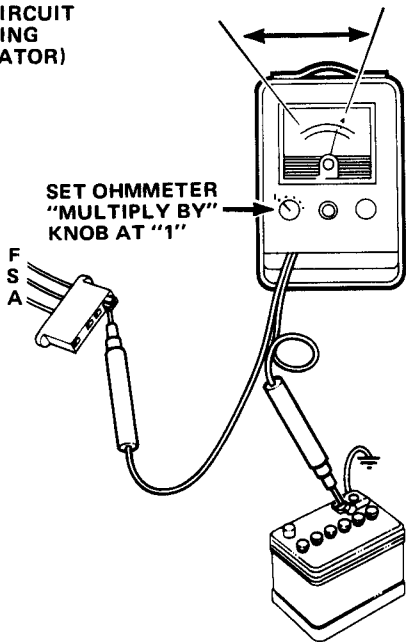

Fig. 3-8 Grounded Field Circuit Test
(1) Turn ignition on and check for battery voltage at regulator S-terminal. If no voltage is indicated, check for open circuit between ignition switch and regulator. If battery voltage is indicated, proceed to step (2).
(2) Turn ignition off and check for battery voltage at regulator A-terminal. If voltage is not indicated, or it is less than battery voltage, check yellow wire for open or faulty terminal connections at regulator and starter solenoid.
(3) Using an ohmmeter, disconnect regulator connector and check brush and rotor circuit by connecting one ohmmeter lead to regulator connector F-terminal and other ohmmeter lead to a good ground (fig. 3-8). Ohmmeter should indicate 4 to 250 ohms. Less than 4